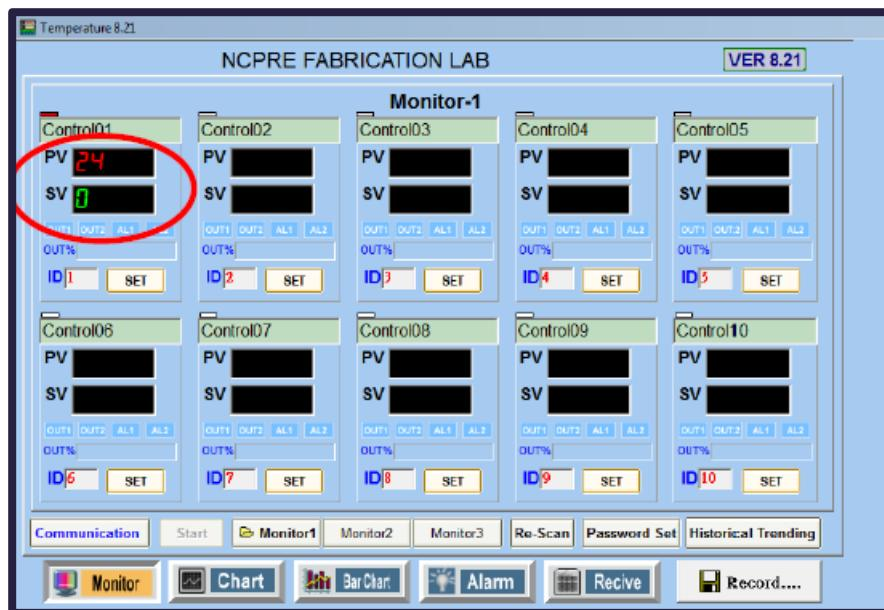

Figure. 19
8. Once the communication is established between the hardware and the software the PV (Present Value) and SV (Set value) of the temperatures will appear as follows (Figure. 19).